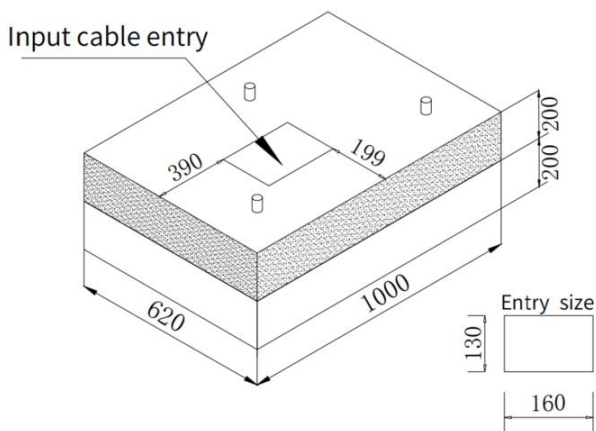

Fig. 5-2 Concrete foundation construction diagram
- Before the equipment is installed, the cement foundation should be reinforced according to the structural size provided by the manufacturer. The strength of anti-corrosion concrete for charging station foundation should not be lower than C25, the foundation should be 200mm above the ground, and the underground depth should be 200mm as shown in Fig. 5-2. Do not install directly on the ground without a foundation, otherwise there is a risk of toppling or internal water immersion. It is recommended to set up a drainage ditch nearby to prevent water accumulation.